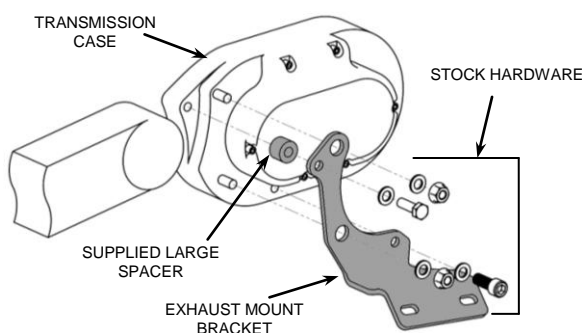

FIGURE 1
6. Install the supplied exhaust mount bracket using the stock bolts. See **FIGURE 1**. Tighten the bolts to factory specifications. If applicable, be sure to insert the large spacer between the exhaust mount and the transmission case as shown in **FIGURE 1**. For Switchback models, also insert 2 of the supplied small aluminum spacers into the large holes in the exhaust mount bracket as shown in **FIGURE 2**.